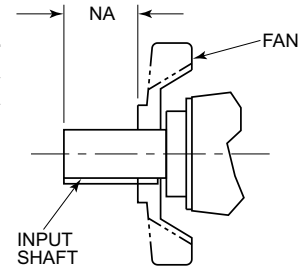

Figure 6.7.2 Dimensions for Location of Fan
- From **Figure 6.7.2**, determine the distance from the end of the input shaft to the front edge of the fan.